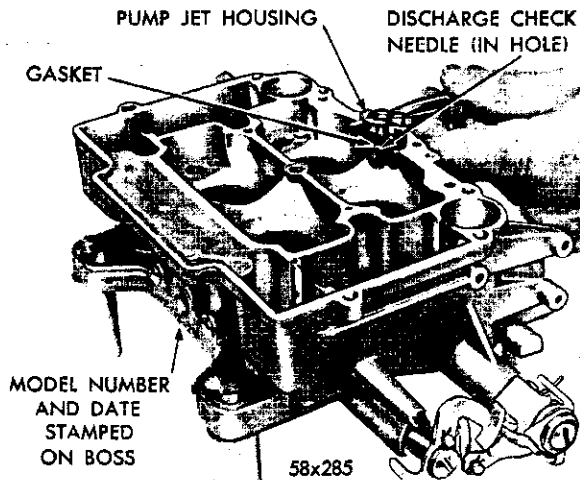

Fig. 3—Removing the Accelerator Pump Jet Housing
(1) Remove the screws that attach the accelerator pump jet housing to the main body. Lift out the jet housing and gasket, as shown in Figure 3. Discard the gasket. Invert the main body and drop out the discharge check needle from the discharge passage.